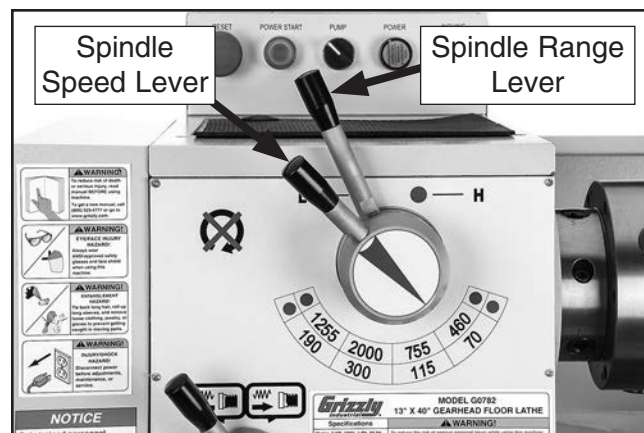

Figure 19. Spindle speed set to 70 RPM.
- a. Position spindle range lever all the way to left, so it aligns with "L" on headstock (see **Figure 19**).
- b. Position spindle speed lever so arrow points to "70" on headstock (see **Figure 19**).